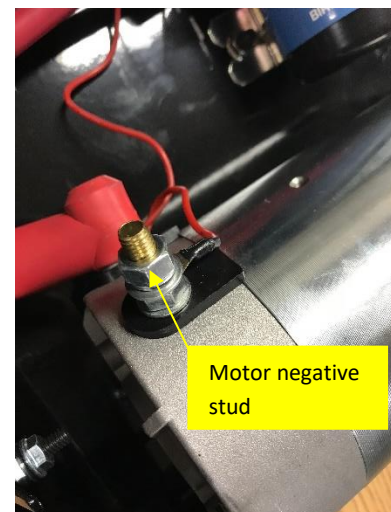

Figure 5
6. Connect 1 gauge black cable (**ITEM 10**) to the motor negative stud and route through the knockout to the vehicle negative battery post and connect it to the battery. Figure 5